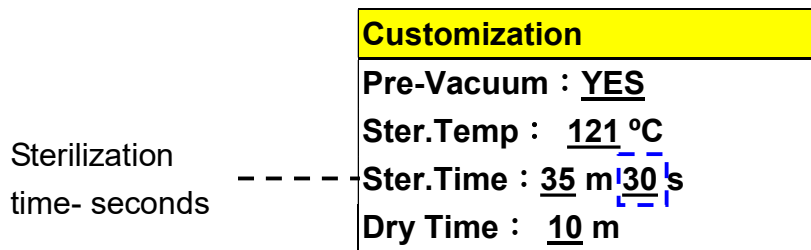

Figure 96
- Press  button to store sterilization time parameter as shown in Figure 96.